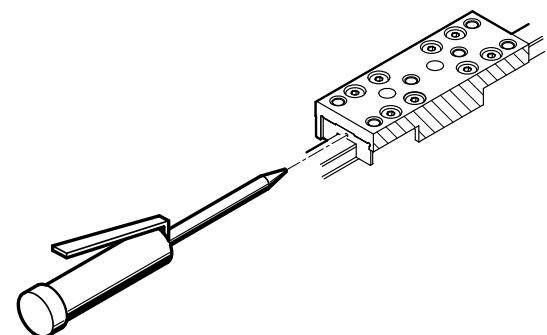

Fig. 13 Greasing the bearing guide
- Grease the bearing guide on both sides at all relubrication openings (lubrication holes) → Fig.13.